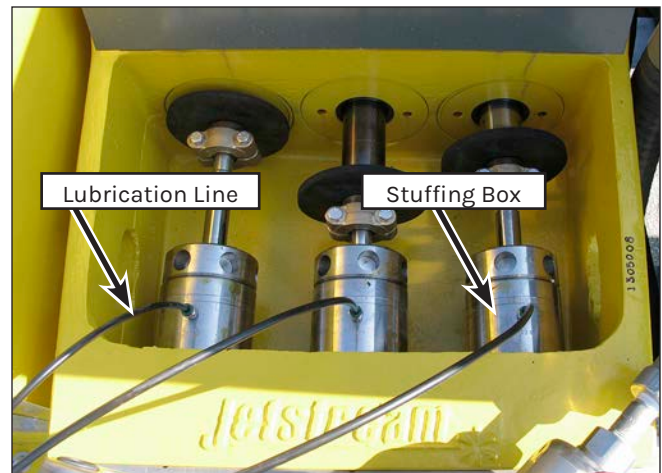

Figure 36: Checking Lubrication.
2. Look into the rod box and verify that lubrication water is flowing from the back of the gland nut at the plunger/gland nut intersection. The flow should be a small stream but should not splash onto the pony rods. (Figure 36).